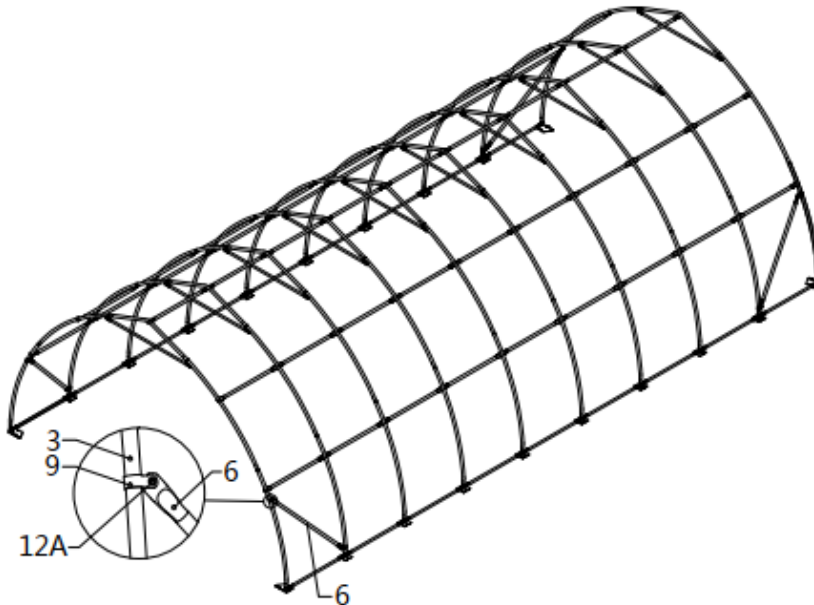

Figure 6
- Connect diagonal bracing bar (#6) with tube clamp (#9) and bolt (#12A) as figure 6.
- (8) Tube clamps (#9)